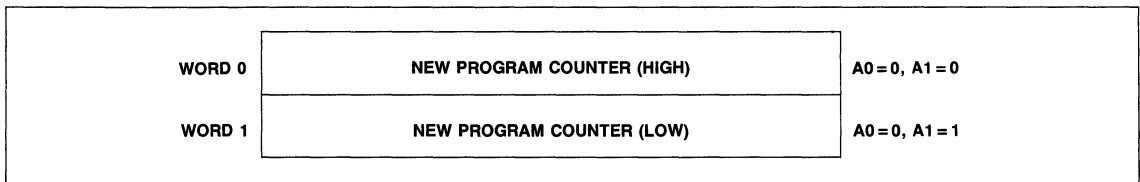
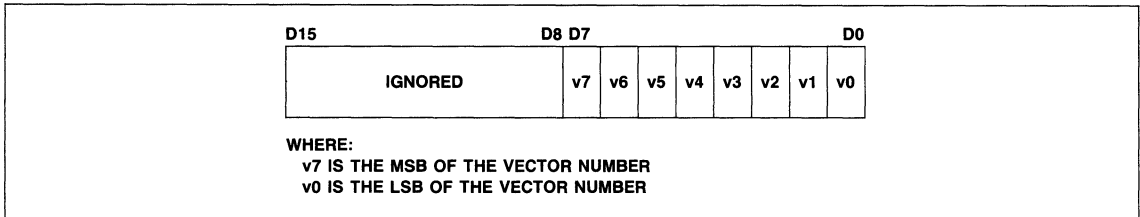
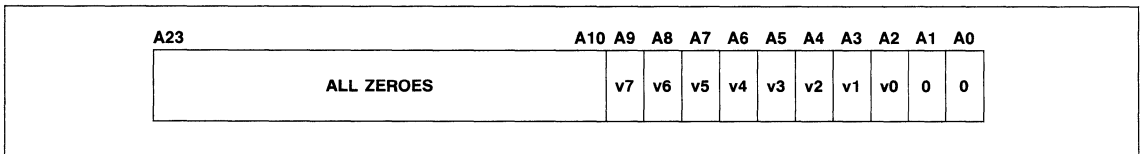

Figure 24. Exception Vector Format
Figure 25. Peripheral Vector Number Format
Figure 26. Address Translated From 8-Bit Vector Number
**EXCEPTION VECTORS.** Exception vectors are memory locations from which the processor fetches the address of a routine which will handle that exception. All exception vectors are two words in length (Figure 24), except for the reset vector, which is four words. All exception vectors lie in the supervisor data space, except for the reset vector which is in the supervisor program space. A vector number is an eight-bit number which, when multiplied by four, gives the address of an exception vector. Vector numbers are generated internally or externally, depending on the cause of the exception. In the case of interrupts, during the interrupt acknowledge bus cycle, a peripheral provides an 8-bit vector number (Figure 25) to the processor on data bus lines D0 through D7. The processor translates the vector number into a full 24-bit address, as shown in Figure 26. The memory layout for exception vectors is given in Table 7.